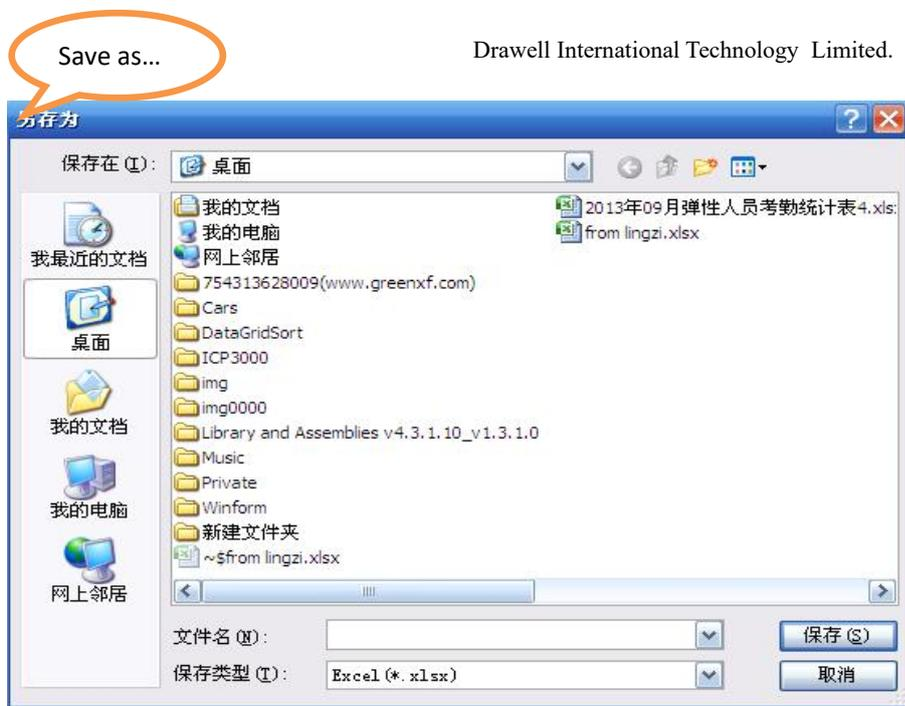

Fig.6.23
4. Export EXCEL: Save to Excel (Figure 6.23).